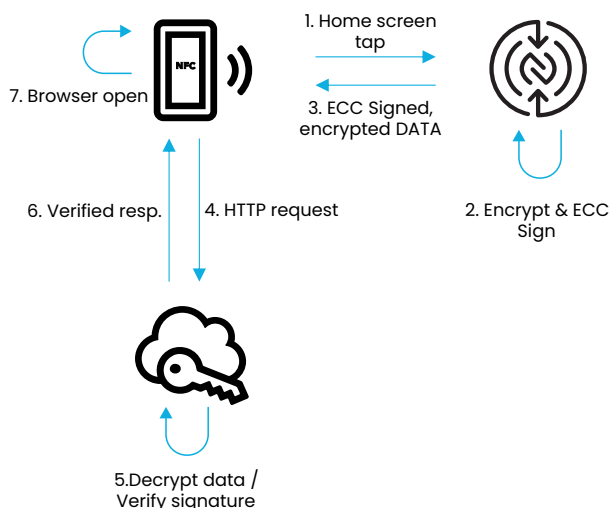

Figure 2. Example for NFC interface only: No NFC mobile application (Home screen NFC reading) - Cloud-based (automatic) system flow
- NFC mobile app-less (Android, iOS) cloud-based Secure-Dynamic-Messaging-based authentication and signature verification Figure 2